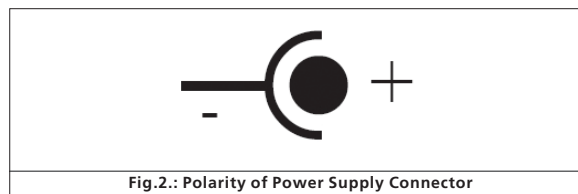

Fig. 2.: Polarity of Power Supply Connector
- Use the power pack with mains plug provided with the LokProgrammer. Connect the output of the power pack to the power supply terminals of the LokProgrammer as per Figure 2.